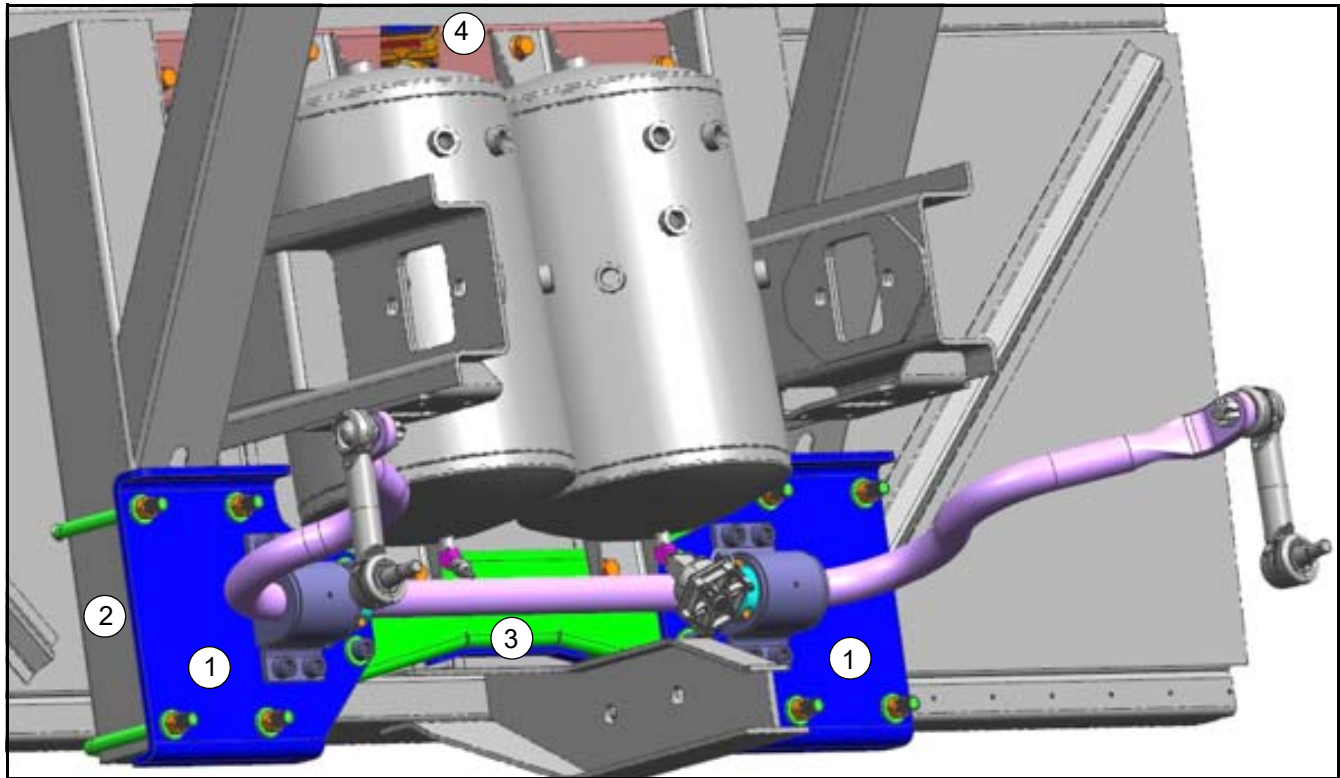

Figure 15. Sway bar assembly installation.
32. Install the new sway bar and service kit components as shown in Figures 15 and 16.
Item	Figure 15 Description